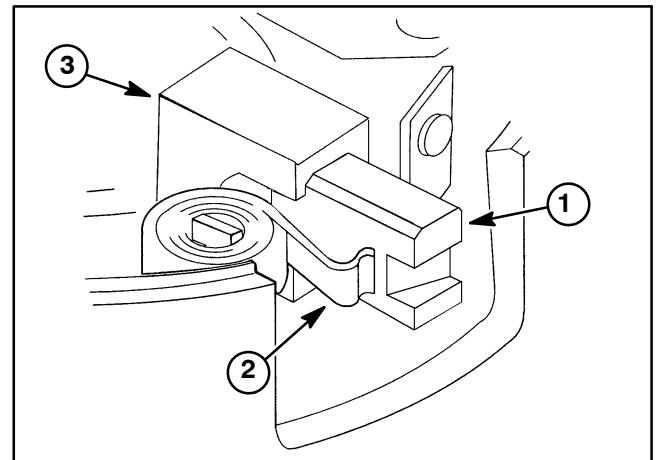
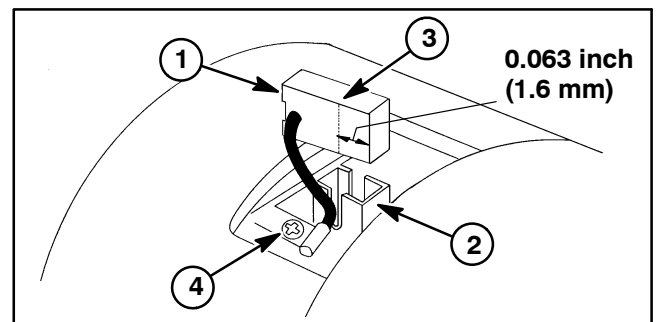
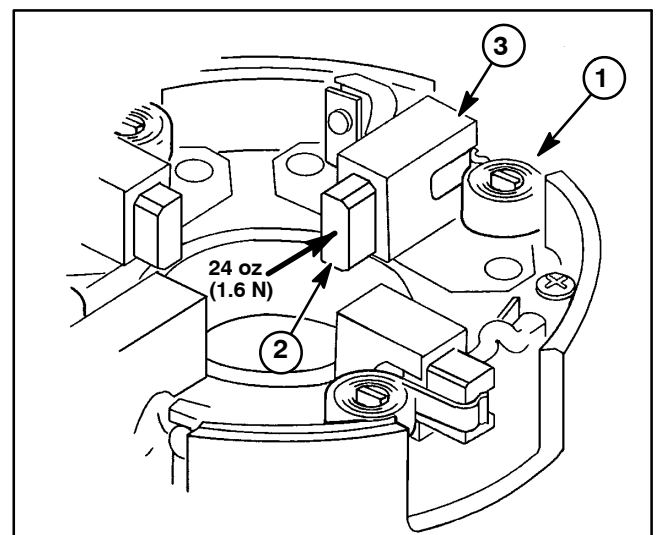

Figure 28
Figure 29
Figure 30
1. Remove brush covers from the commutator end cover. Lift brush springs from the notch at the end of the brushes while pulling the brushes out. Allow springs to hold brushes out from the center (Fig. 28).
B. If the length from the end of the brush to the wear line is less than 0.063 inch (1.6 mm), replace all four (4) brushes (Fig. 29).
A. Secure all four (4) brushes into their holders with the brush springs.
B. Using a spring scale, check tension on all four (4) brushes in the direction of the spring (Fig. 30).
C. Replace all four (4) springs if any spring's tension is less than 24 ounces (1.6 N).
8. Lift brush springs from the notch at the end of the brushes while pulling the brushes out. Allow springs to hold brushes out from the center (Fig. 28).
10. Slide brushes into holders. Secure brushes by positioning brush springs into the notch at the end of the brushes (Fig. 30).
H. Lift brush springs from the notch at the end of the brushes while pulling the brushes out. Allow springs to hold brushes out from the center (Fig. 28).
K. Slide brushes into holders. Secure brushes by positioning brush springs into the notch at the end of the brushes (Fig. 30).